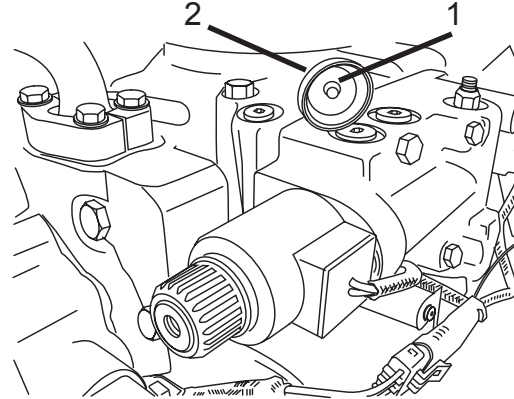

Figure 5
13. Remove the pins (Figure 5, Item 1) from the override caps (Figure 5, Item 2), and replace the caps. Place the pins in your pocket with the truck keys.